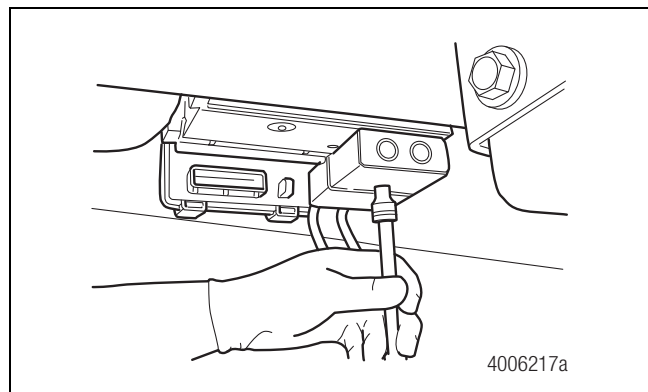

Figure 4.27
9. Use a 4 mm socket wrench to loosen and remove the five Allen-head screws that secure the relay valve to the hydraulic compact unit (HCU). Figure 4.27.